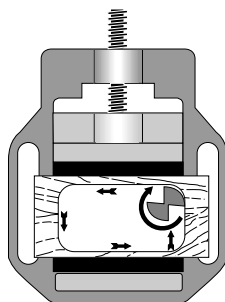

Fig. 4
6. Feed for milling a rectangle (Fig. 4)